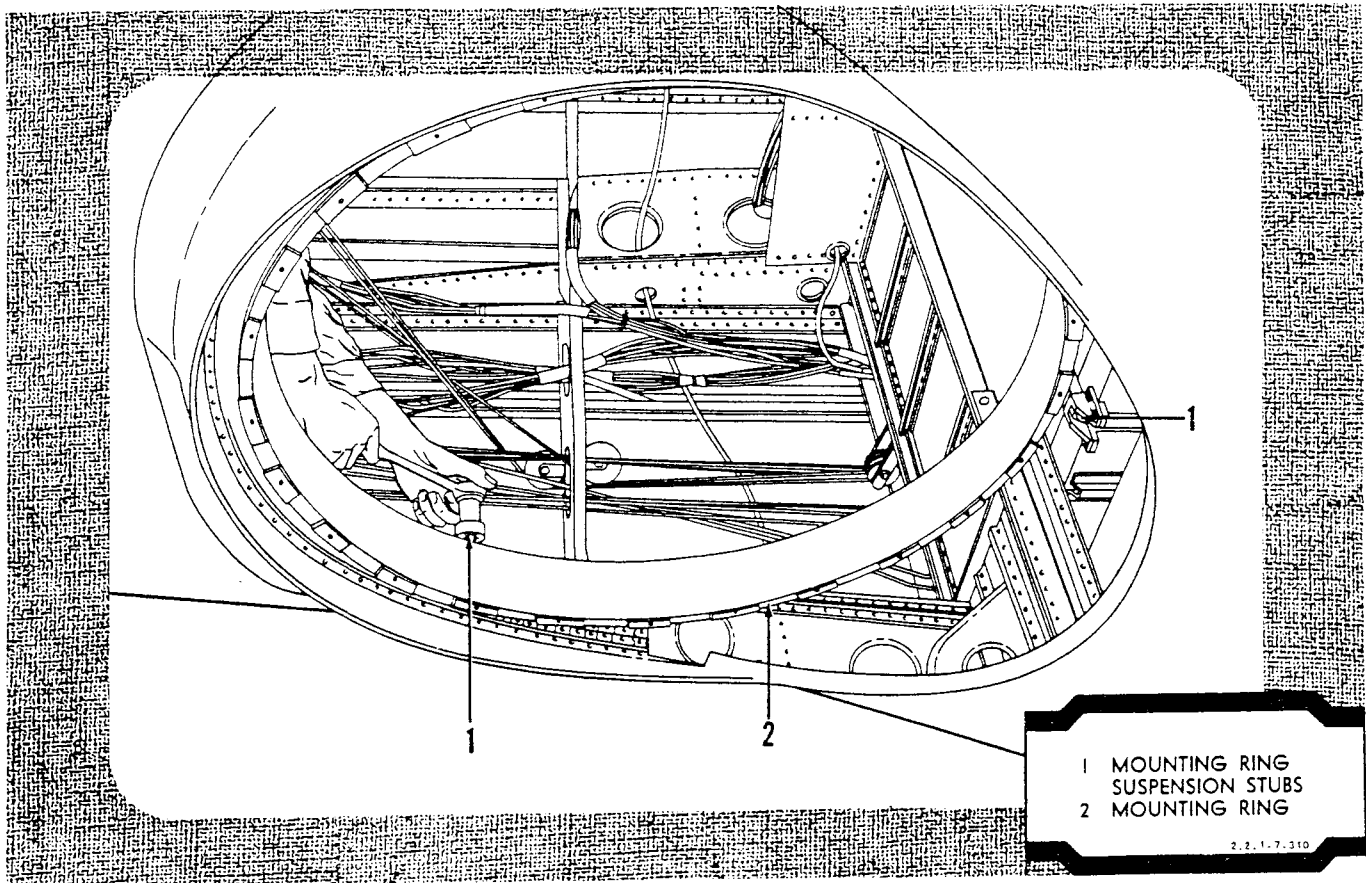

Figure 2-26. Installation Lower Turret Mounting Ring
- b. If turret mounting ring has been damaged, remove and install a new ring by attaching it to three mounting bosses. (See figure 2-26.)